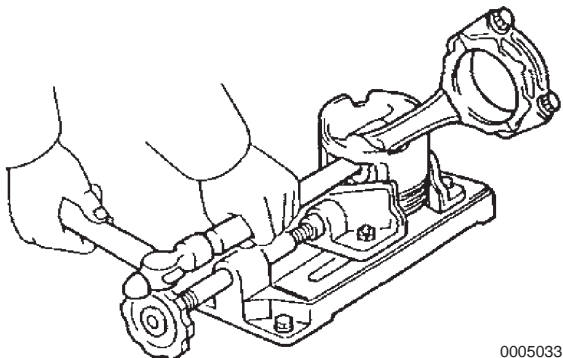

Figure 5-110
6. Lightly tap out the piston pin using a plastic hammer and copper bar to disconnect the connecting rod (**Figure 5-110**).